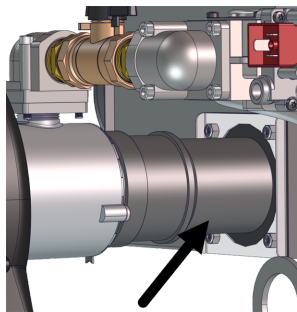

Figure 49 Air intake tube
6. Pull away the air intake tube (can slide into the filter box) from the fuel mixer (see Figure 49).